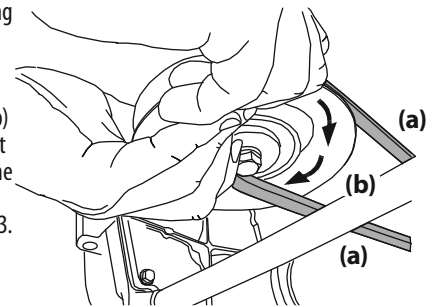

Figure 43
- While still holding the PTO belt (a) downward, continue turning the PTO pulley (b) until the PTO belt (a) is rolled off the PTO pulley (b). Refer to Figure 43.
8. Pull the right side of the PTO belt rearward and place the narrow V-side of the PTO belt into the PTO pulley. See Figure 43.
9. While holding the PTO belt and PTO pulley together, rotate the PTO pulley to the left (See Figure 43). Continue holding and rotating the PTO pulley and PTO belt until the PTO belt is fully rolled into the PTO pulley.